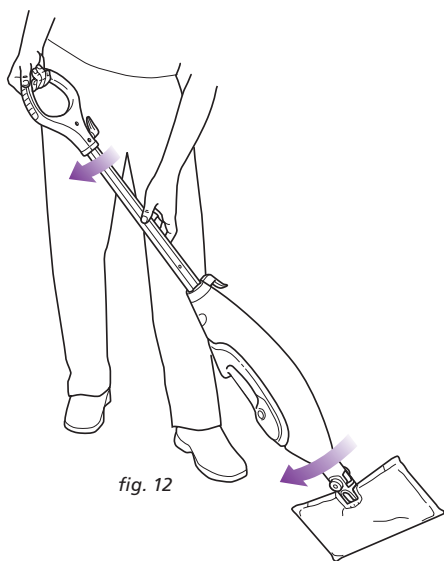

fig. 12
- 5 Use the shaggy side of the cleaning pads to lift up and lock away all the dirt and debris and the scrubbing side to break up the tough stains. (fig. 12)